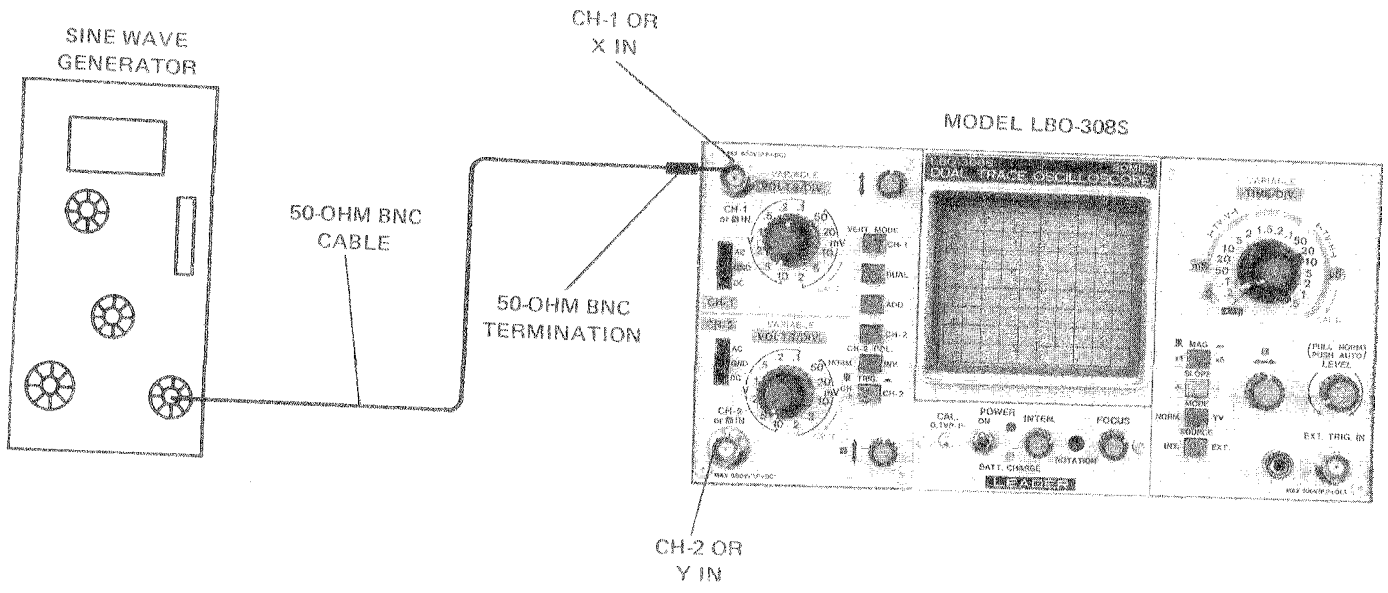

Figure 3-2. Bandwidth Test Setup
- a. Connect equipment as shown in Figure 3-2.